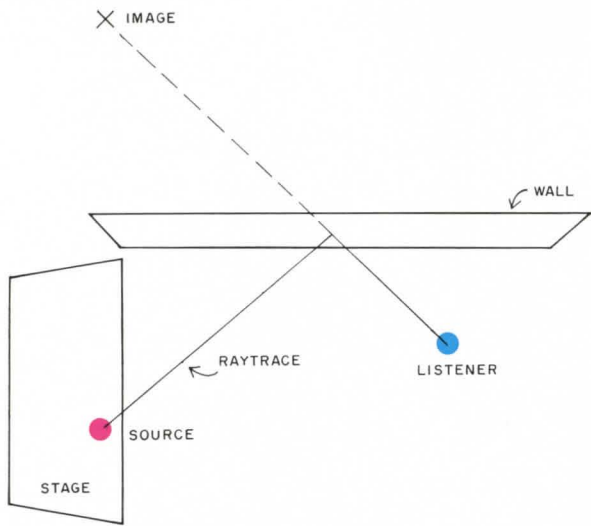
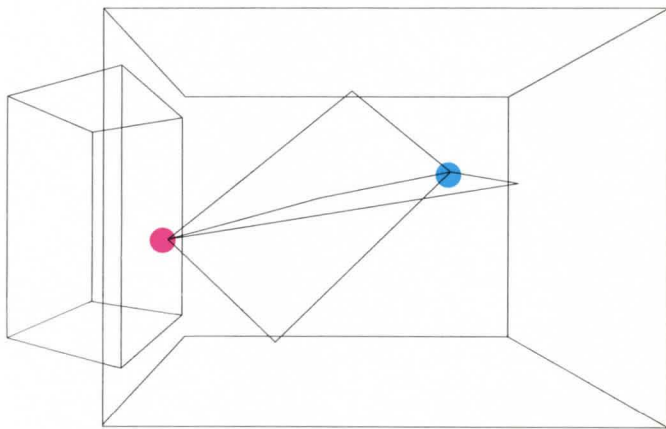
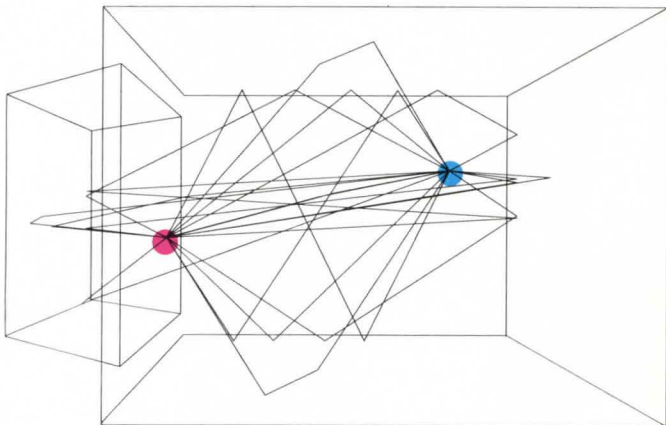
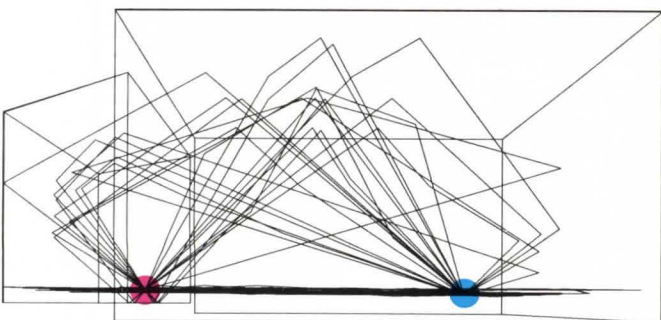

Figure 1
Figure 2
Figure 3
Figure 4
Increasing the lateralization of sound means increasing the ratio of sound intensity that arrives from the listener's sides (Figures 1, 2, and
In order to study the relationship between room shape and sound field lateralization, we have developed a computer program, called IMAGES, that traces the paths traveled by sound "rays" emanating from a source on the stage, reflected from the boundary surfaces of the room, and arriving finally at a particular listener position (Figures 3 and 4).
In the same way as the position of the image resulting from light reflected by a mirror can be found, the computer program we have developed finds the locations of "virtual sources" or "images" of the sound source (Figures 1 and 7). From these image locations, we can trace the paths of the sound rays within the room. This computer model has most validity at higher frequencies and with larger room panel surfaces; diffraction, though it can be important in a real room, is not included in the simulation.
*In a hypothetical room plan showing only a single boundary wall, sound emanating from the source is reflected by the side wall to the listener, and the path taken by the sound wave is indicated by the raytrace (Figure 1). The computer constructs the raytrace by first locating the image of the source—that is, the apparent source of reflected sound; the distances between sound and listener and between image and listener represent the time it takes for sound to travel from source and from image to the listener. In Figure 2, raytraces show the sound reflected only once by the boundary surfaces of a rectangular room. When raytraces show sound reflected more often, their pattern grows more dense and complex (Figure 3). Further, there are ceiling reflections seen clearly only in section (Figure 4). These raytraces show ceiling and "cornice" reflections, the latter constituting sound reflected near the junction of walls and ceiling. Raytraces in both plan and section show sound reflected many times by boundary surfaces in the room.*